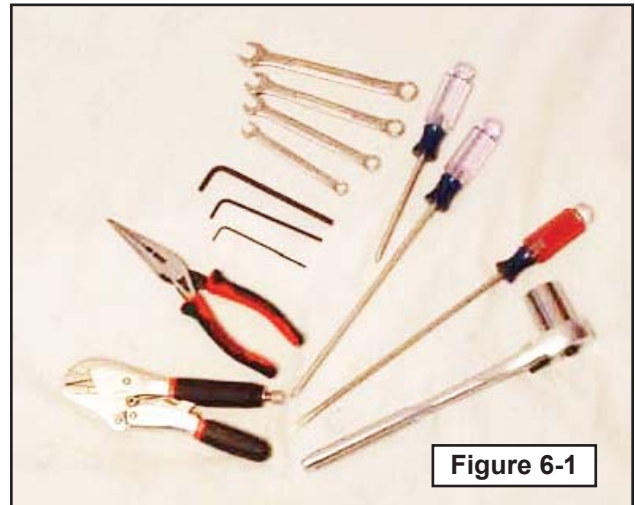

Figure 6-1
6.3 Tools needed for Repairs (Figure 6-1)